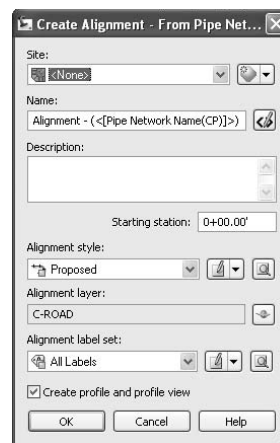

Figure 13.13
- At the **Select next Network Part or [Undo]:** prompt, select **Pipe A, CB 2, Pipe B, CB 4, Pipe D, and SDMH**. Press **↵**. The **Create Alignment - From Pipe Network** dialog will appear as shown in Figure 13.13.